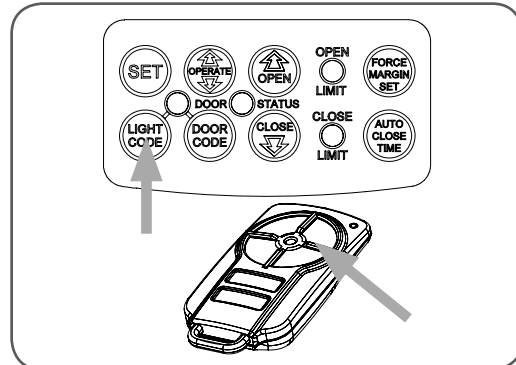

fig 21
- Press and hold LIGHT CODE button (**Fig. 21**).
- Press one of the four buttons on the transmitter for two (2) seconds, pause for two (2) seconds, then press the same button again for two (2) seconds.